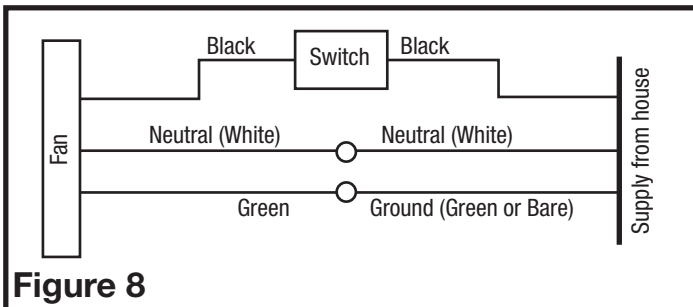

**Figure 7**
- 1b. Internal Wire Compartment: If the motor is already installed in the housing, remove the two screws holding the blower assembly in place. Lift up on the assembly and slide it out of the tabs on the housing (**Figure 6**). Remove the wire compartment cover screw and place the cover in a secure place (**Figure 7**).